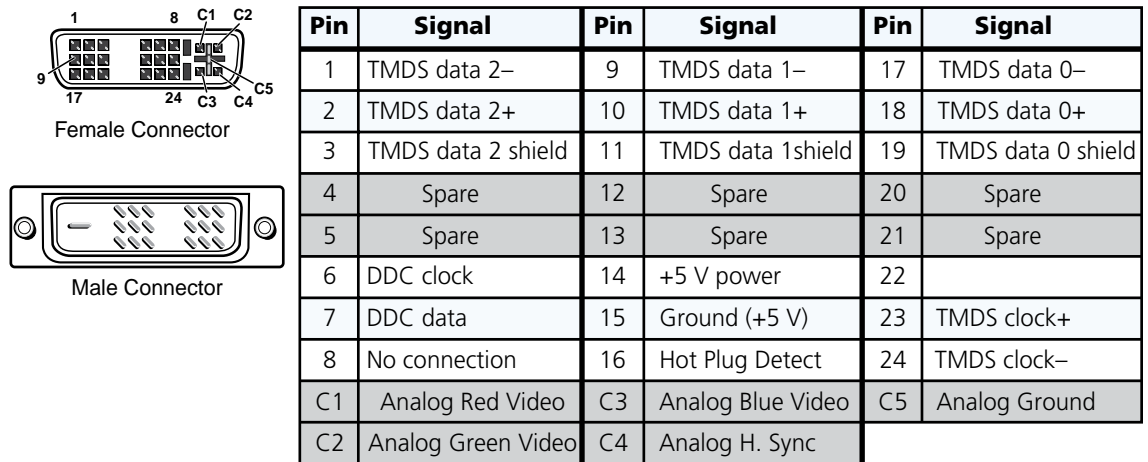

Figure 3. DVI Connectors
Figure 3 defines the DVI pin assignments.
- The missing connectors on the included DVI cable (TMDS data 3, 4, and 5) are not required for the single link of DVI-D data supported by the DVI-RGB 200. These pins are grayed out in figure 3.